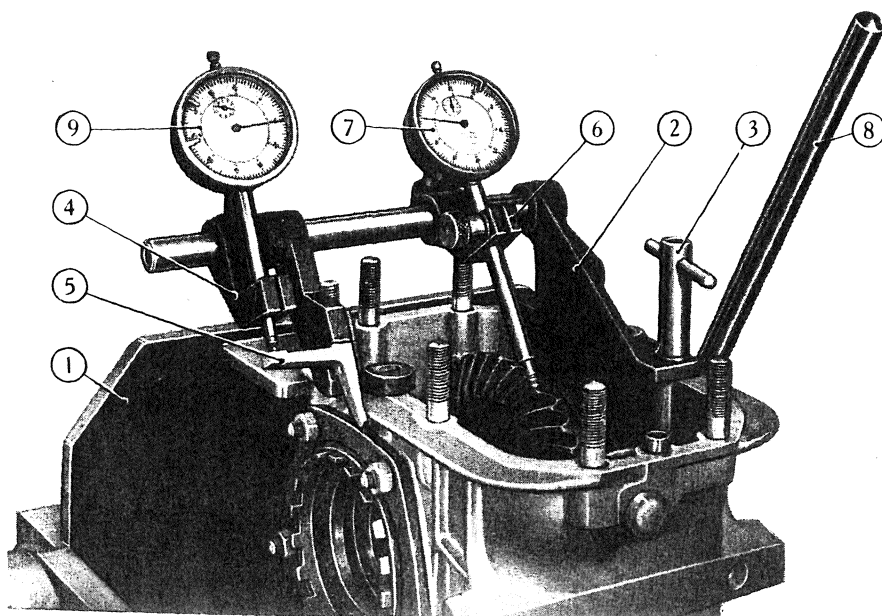

Fig. 239.
These two operations must be carried out simultaneously using fixture C. 688 equipped with two dial gauges, and wrench A. 52020 (early type gearbox - differential units), or A. 55034 (late-type gearbox - differential units) (fig. 239).
The fixture is fixed to differential unit by screwing stud (3, fig. 239); move support (4) until cranked lever (5) contacts the differential case outer side face,
Using proper wrench (8, fig. 239), tighten one of the two adjuster rings: in so doing, the differential case is lightly divaricated, and this is recorded through lever (5), on dial gauge (9) previously set to zero.
Lock drive pinion rotation and manually move ring gear of the amount permitted by lash between teeth. This lash will be recorded on dial gauge (7, fig. 239)
To perform this operation with accuracy, check the reading on dial gauge (9, fig. 239).
Next, by dial gauge (7, fig. 239), check to see if the correct backlash has been obtained. If not, screw adjuster rings in or out once more until the desired results are obtained. If the shop is equipped with differential test bench I. 13801 (fig. 240), the above preloading and adjustment operations may be performed on this bench, where also differential noise and final drive set tooth contact tests and checks shall be performed.